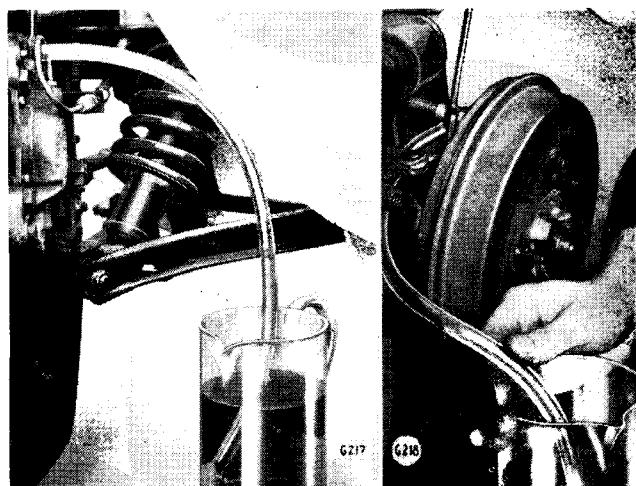

Fig. 4. Bleeding
3. Wipe clean and unclog the bleed nipple and attach to it a short length of small bore tubing Fig. 4. Hold the tube in a clean glass container partially filled with hydraulic fluid, so that its end is below the level of the fluid. Unscrew the bleed nipple one half turn.